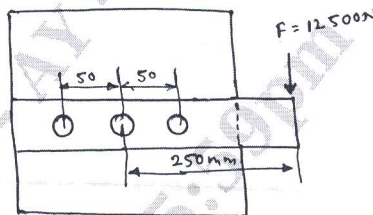

Fig. Q7 (b)
- b. Find the diameter of the rivet as shown in Fig. Q7(b). The maximum shearing stress on the most heavily loaded rivet is  $56 \text{ N/mm}^2$ . (10 Marks)